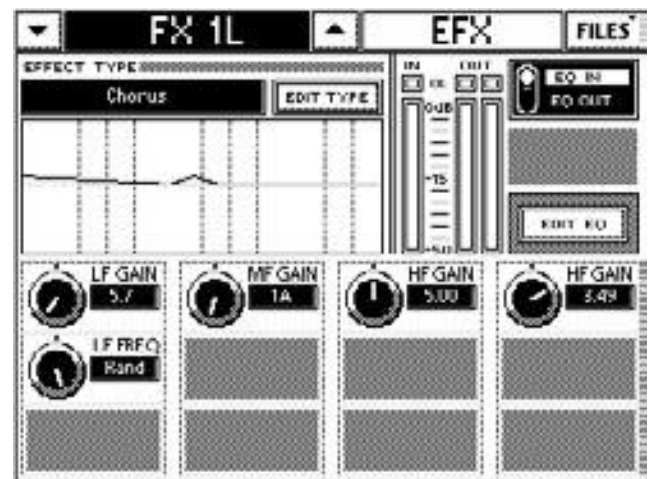

Figure 2-10 *Internal Effects (top) and Chorus (bottom) screens*
4. Press the **EFX QuickMix** button. The INTERNAL EFX Touchscreen opens (top of Figure 2-10).
5. Touch the **Edit** button next to Chorus to edit its parameters on its own screen (right of Figure 2-10).